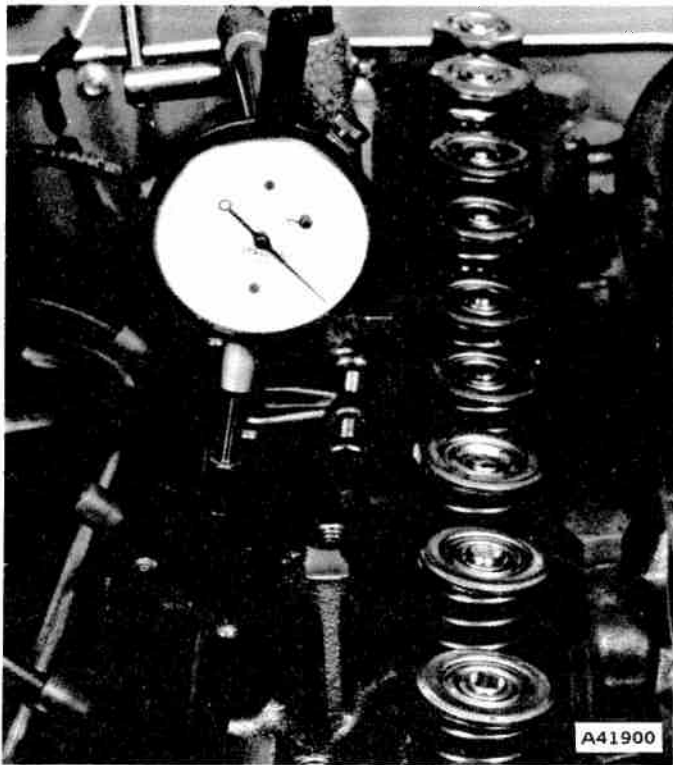

Fig. 1A-30 Cam Lobe Lift Measurement
- (1) Remove cylinder head cover and gasket.
- (2) Remove rocker arms and shaft assembly.
- (3) Remove spark plugs.
- (4) Install a dial indicator on end of push rod (use piece of rubber tubing between dial indicator plunger and push rod (fig. 1A-30)).